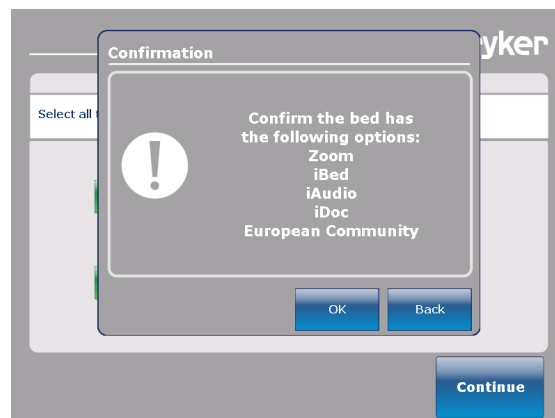

Figure 31: Bed Options Confirmation Screen
4. After pressing **Continue** in step 3, a confirmation screen as shown in Figure 31 will be displayed verifying the options you selected.